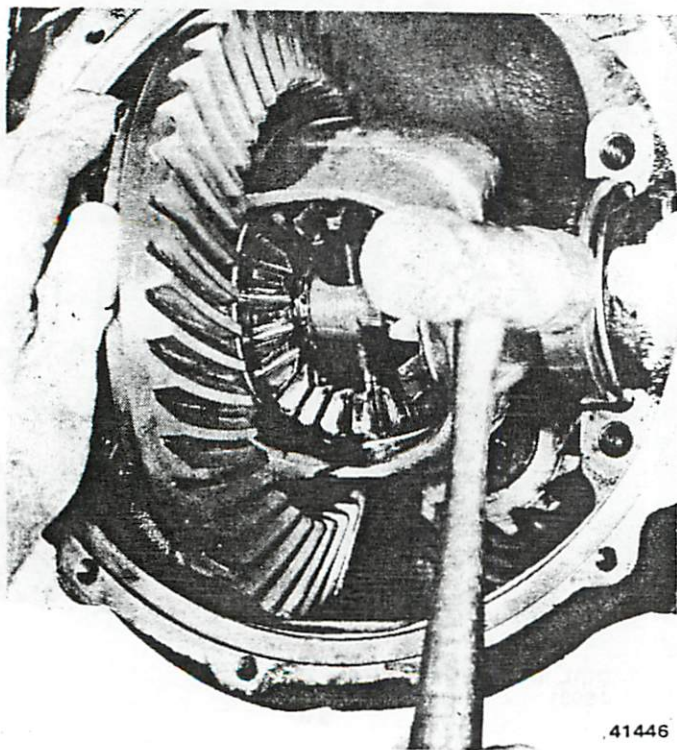

Fig. 2F-44 Differential Installation
(1) Remove differential assembly from housing. Be sure to keep differential bearing shim packs together for proper assembly.
(2) Reinstall differential bearing shims in axle housing bearing bores.
(3) Install differential bearing cups on differential bearings. Cups should cover differential bearing rollers completely.
(4) Position differential assembly in housing so bearings just start into housing bearing bores (fig. 2F-44).